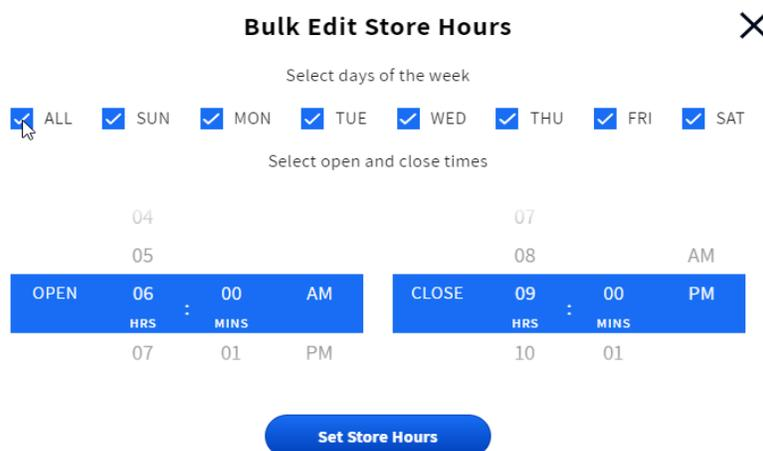

Fig. 5.2
**Store Hours:** Open and Close times are recorded here. Click in the time field and use the adjustment counter to set. If your store hours are the same for every day of the week tap/click on the  button. Here you can select an opening and closing time and then check the ALL box. This action automatically selects all the days of the week. See Fig. 5.2.
**NOTE:** At least one “days of the week” box must be selected for the Set Store Hours button to become active (it turns blue when active as in Fig. 5.2).